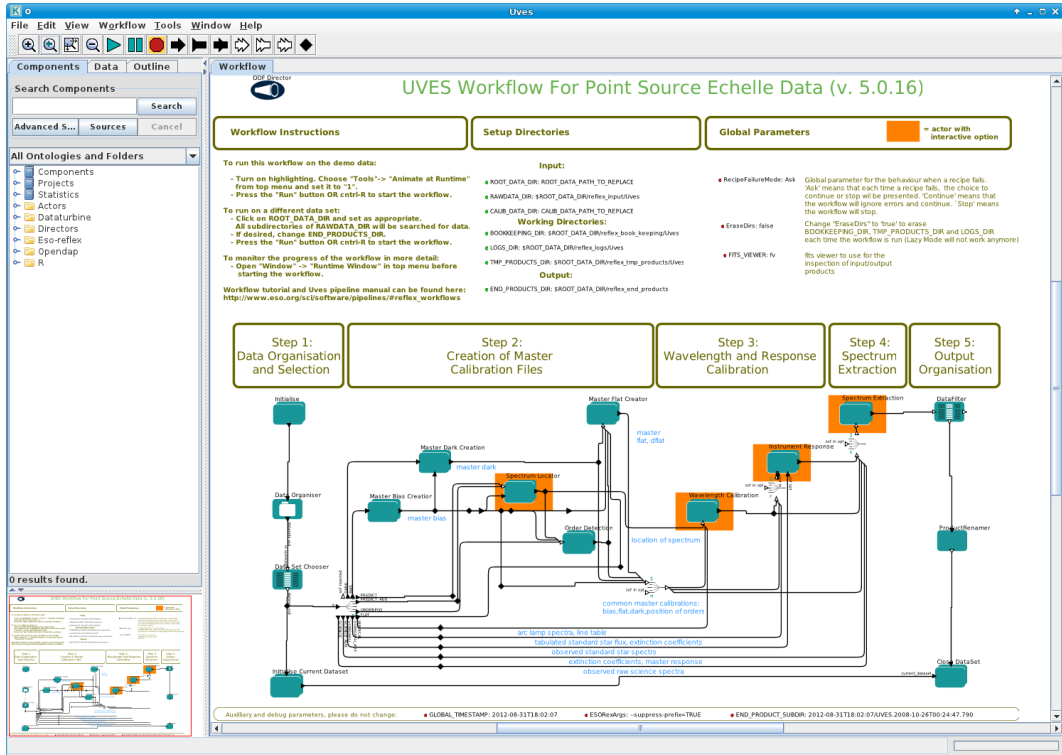

Figure 4.2: *UVES workflow general layout.*
2. Now open the UVES workflow by clicking on File -> Open, selecting the file `uves-5.0.17/Uves.xml` in the file browser, and clicking Open (this file is located in `<install_dir>/share/reflex/workflows/uves-5.0.17/Uves.xml` in the pipeline installation). You will be presented with the workflow canvas shown in Figure 4.2. Note that the workflow will appear as a canvas in a new window.